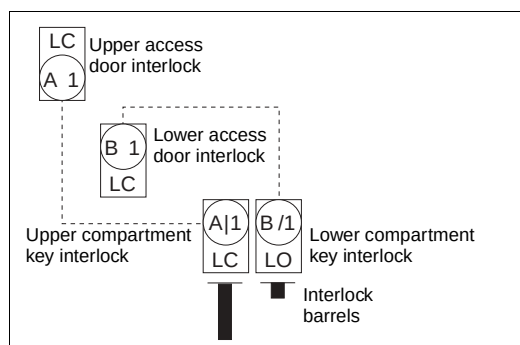

Figure 30: Interlock Status (Step 2.b.)
- b. If device is racked into a lower circuit breaker compartment, lock closed (LC) the left circuit breaker compartment key interlock to extend the left interlock barrel (see Figure 30) and release the interlock key.